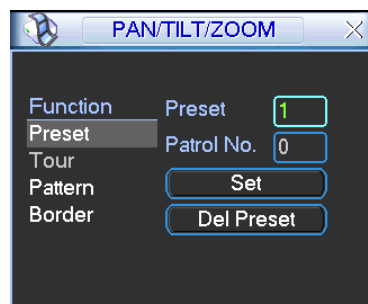
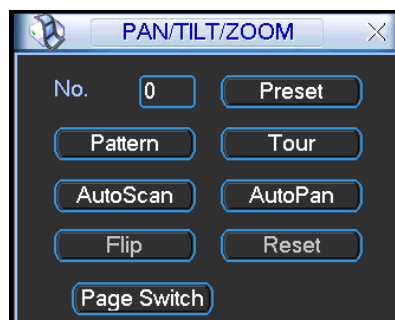

Figure 4-46
Figure 4-47
In Figure 4-43, please click the “set” button. The interface is shown as below. See Figure 4-46.
In Figure 4-43, click page switch button, the interface is shown as in Figure 4-47. Here you can activate the following functions:
- The following setups are usually operated in theFigure 4-43, Figure 4-46 and Figure 4-47.
In Figure 4-46, click preset button and input preset number. The interface is shown as in Figure 4-48.
In Figure 4-47, please input preset number in the No. blank, and click preset button.
In Figure 4-46, input patrol (tour) number in the No. blank and click patrol button
In Figure 4-46, click pattern button and then click “begin” button. The interface is shown as in Figure 4-50. Then you can go to Figure 4-43 X to modify zoom, focus, and iris.
In Figure 4-47, click “Auto Scan” button, the system begins auto scan. Correspondingly, the auto scan button becomes Stop button. Click stop button to terminate scan operation.
In Figure 4-47, click page switch button, you can see an interface is shown as below. See Figure 4-52. Here you can set auxiliary function. The aux value has relation ship with the Aux button of the decoder.